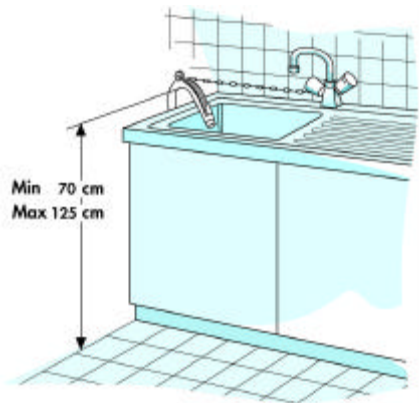

Fig. 2
2. Fit the drain hose either to the siphon or hook it over the edge of a sink or bath tub with the "U" bend (Fig. 2). Small hand basins are not suitable. The edge of the tub must be no higher than 125 cm above the floor.
Make sure that there are no kinks in the drain hose run and take precautions against it falling while the appliance is running (Fig. 2).